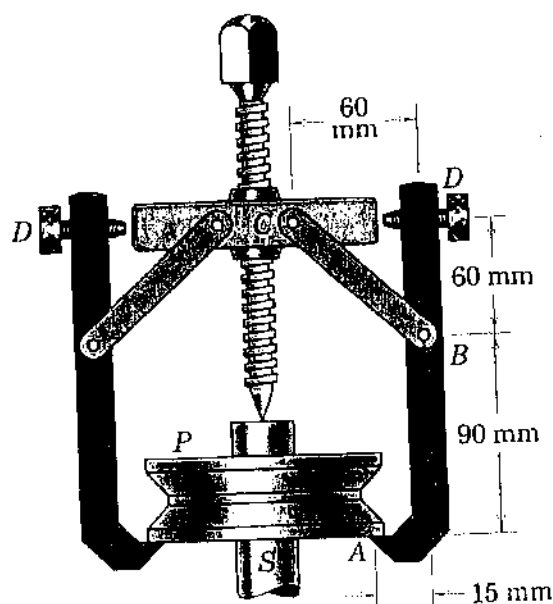

Fig. Q3
3. The Fig. Q3 shows a wheel puller which is designed to remove a V-belt pulley P from its tight-fitting shaft S by tightening the central screw. If the pulley starts to slide off the shaft when the compression in the screw has reached 1.2 kN, calculate the magnitude of the force supported by each jaw at A . The adjusting screws D support horizontal force and keep the side arms parallel with the central screw.